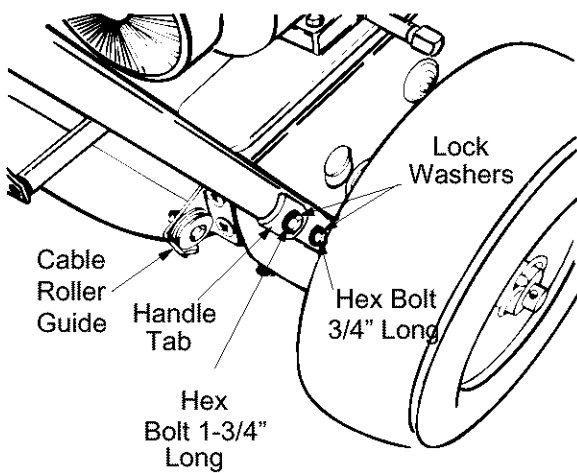

Figure 4
1. Place right handle (A) in position against the snow thrower so the flat side of the handle is against the snow thrower. Secure bottom hole in handle to snow thrower using hex bolt 3/4" long and lock washer. See Figure 4. Do not tighten at this time.
3. Attach the left handle (A) in the same manner. Do not tighten at this time.
4. Place the handle panel (B) in position between the handles. To hold the handle panel in place, depress both clutch grips against the handles. While continuing to hold the right hand grip, release the left hand grip (the auger clutch lock will keep left hand grip engaged). See Figure 4.